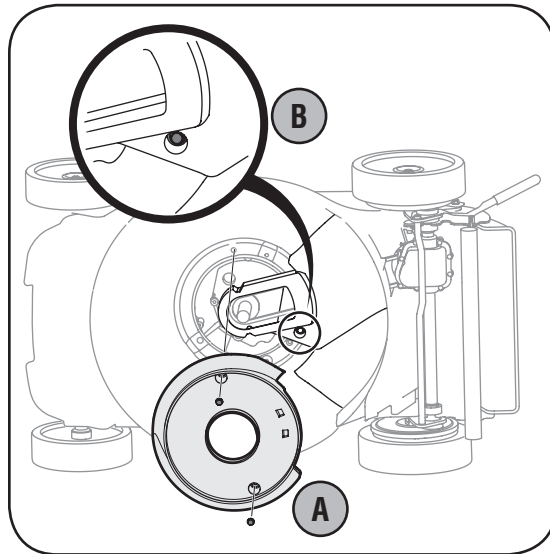

Figure 5-4: A. Remove the screws that hold the engine baffle onto the deck. B. Loosen the screw that holds deck baffle onto deck.
5. a. Remove the self-tapping screws that secures the engine baffle to the deck . See Figure 5-4. Remove engine baffle.
- b. Loosen self-tapping screw that secures deck baffle to the deck. See Figure 5-4.